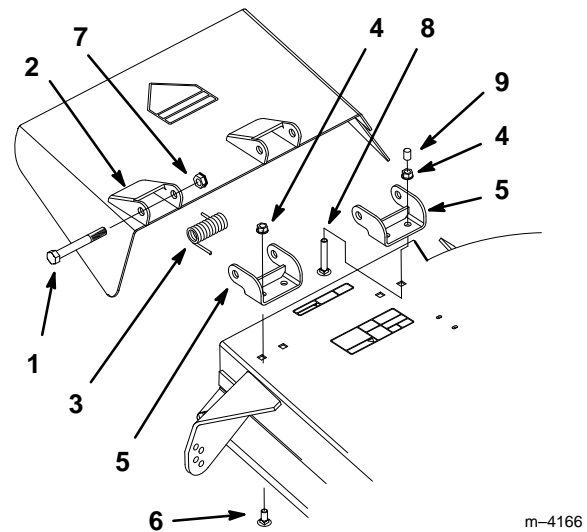

Figure 51
1. Remove the locknuts, bolts and springs holding the deflector mounts to the pivot brackets (Fig. 51).
2. If the pivot brackets need to be replaced, remove the carriage bolts, cone locknuts and cap holding the old brackets to the top of the discharge opening, then install the replacement pivot brackets. Make sure the carriage bolt heads are on the inside of the cutting unit (Fig. 51).
3. Install the deflector mounts onto the pivot brackets with the bolts, springs and locknuts. Make sure the straight ends of the springs are positioned between the deflector mounts and the grass deflector (Fig. 51).
4. Tighten the locknuts until they contact the pivot brackets and install cap (Fig. 51).